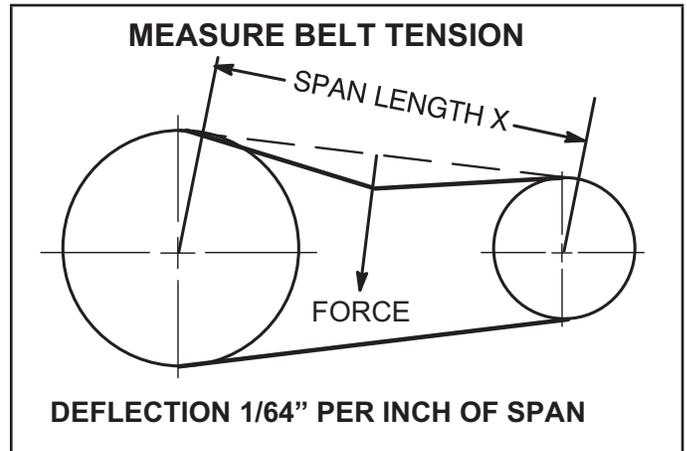

FIGURE 17
- 1 - Measure span length X. See FIGURE 17.
- 2 - Apply perpendicular force to center of span (X) with enough pressure to deflect belt 1/64" for every inch of span length.